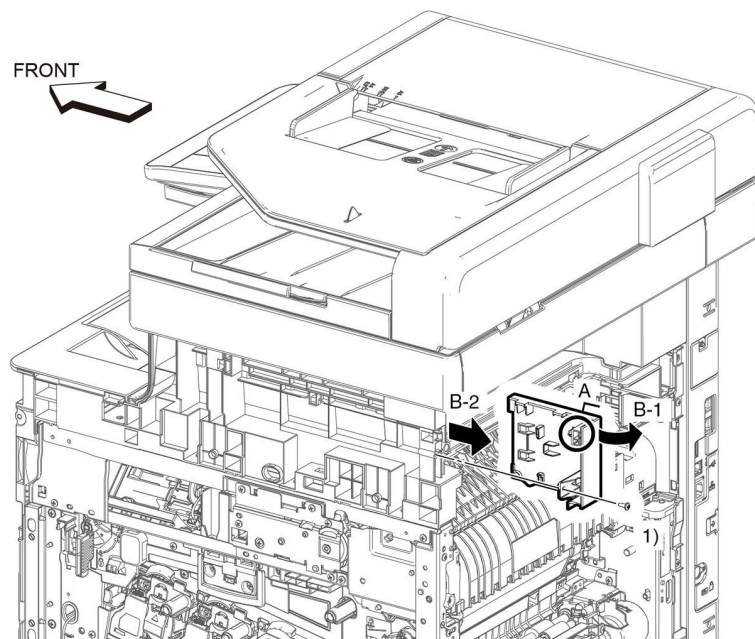

Figure 1 Right side IIT inner cover removal
5. Remove the IIT Right Side Rear Inner Cover, Figure 1:
- a. Remove the screw (1).
- b. Flex the IIT Right Side Rear Inner Cover (B-1) to release the boss (A), then remove the IIT Right Side Rear Inner Cover (B-2).